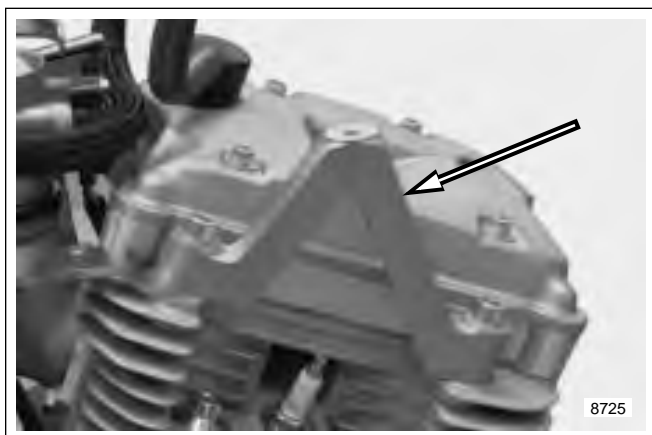

Figure 3-27. Center Tie Bar Mount
- b. See Figure 3-27. Center tie bar mount.